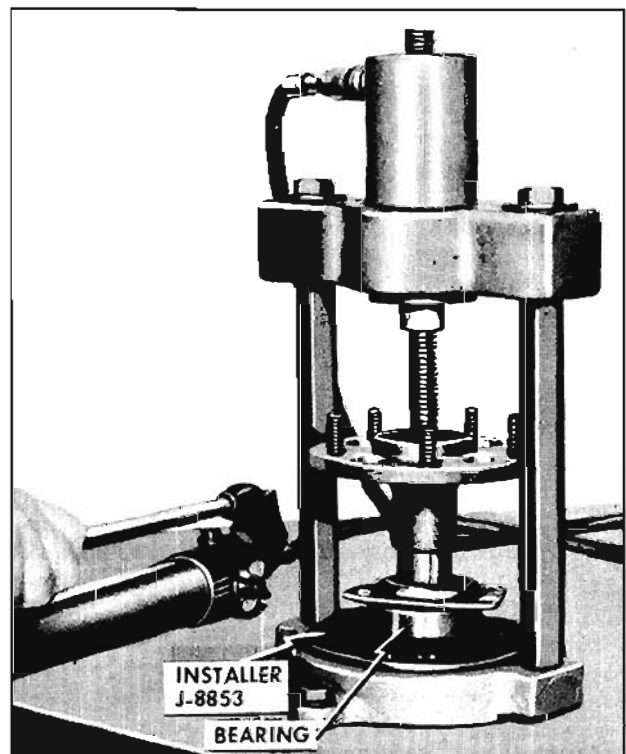

Fig. 10-106 Installing Axle Shaft Bearing
3. Retainer plate which retains bearing in housing must be on axle shaft before bearing is installed; retainer gasket can be installed after bearing. Press new axle shaft bearing against shoulder on axle shaft using Installer J-8853. (Fig. 10-106)